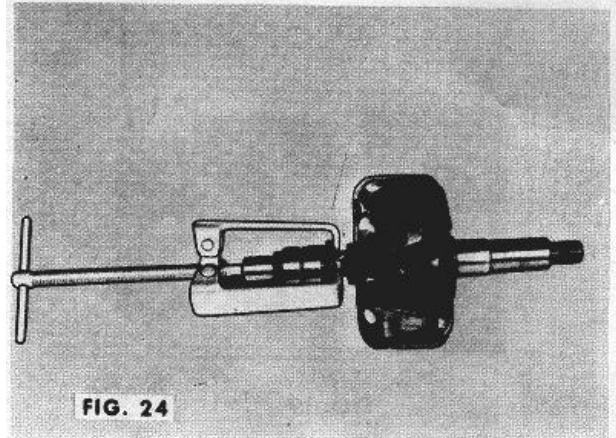

Fig. 24
2. With a suitable puller, the slip ring assembly may now be pulled from the shaft. (See Figure 24.)